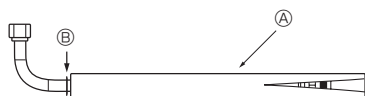
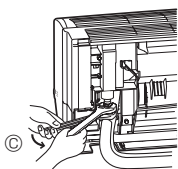

Fig. 3-8
Fig. 3-9
3. Facing the direction in which the L-shaped connection pipe ④ will be removed, make a quick connection to the indoor unit flare connection opening.
4. Tighten the flare nut using a double open-end wrench. (Fig. 3-9)
1. Cut L-shaped connection pipe ④ at the position indicated in (Fig. 3-8).
2. Insert the flare nut that was removed earlier onto the straight pipe side of the cut L-shaped connection pipe ④ and then flare the end of the pipe.
5. Quickly connect the L-shaped connection pipe ④ that has been processed as described in part 2) to the indoor unit flare connection opening.
6. Tighten the flare nut using a double open-end wrench. (Fig. 3-9)